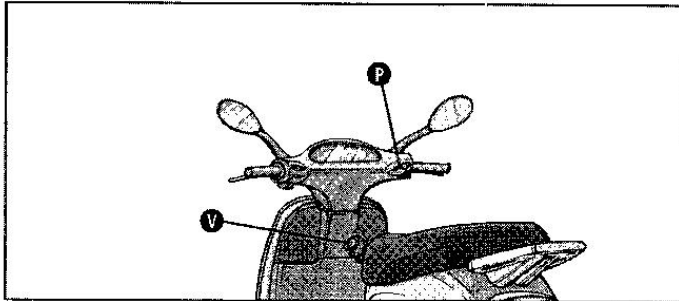

Fig. 1
- Move the engine stop switch «P» (fig. 1) to position "⊗" (OFF).